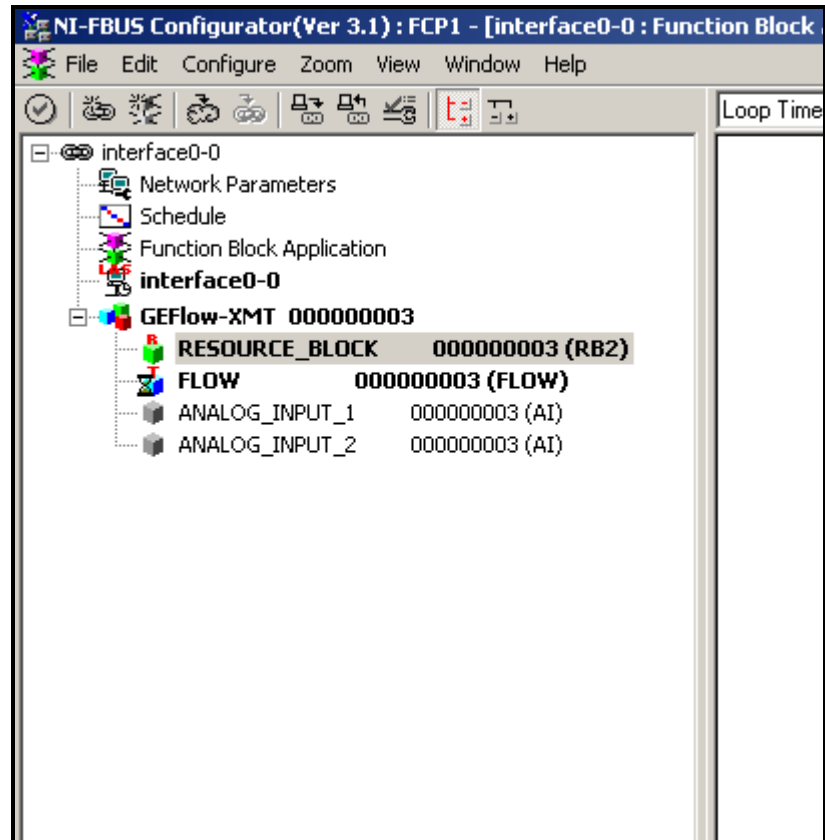

Figure D-1: Configuration Utility Setup Example
Figure D-1 below shows the Configuration Utility with a flowmeter on the network (GE Flow-XMT).
1. Double click on the AI block for which you wish to set the units (ANALOG_INPUT_1 or ANALOG_INPUT_2 in the tree under GEFLOW-XMT; see Figure D-1 on page -2).
1. Double click on the FLOW transducer block (in the tree under GEFlow-XMT; see Figure D-1 on page -2).